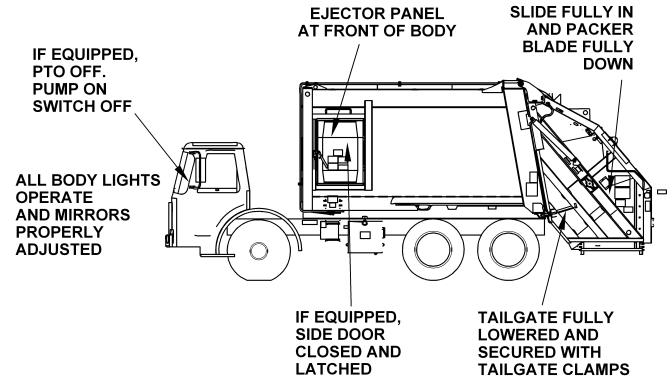

Figure 48. In-Transit Position
1. Move the slide and packer panel into the START position. See figure 48.